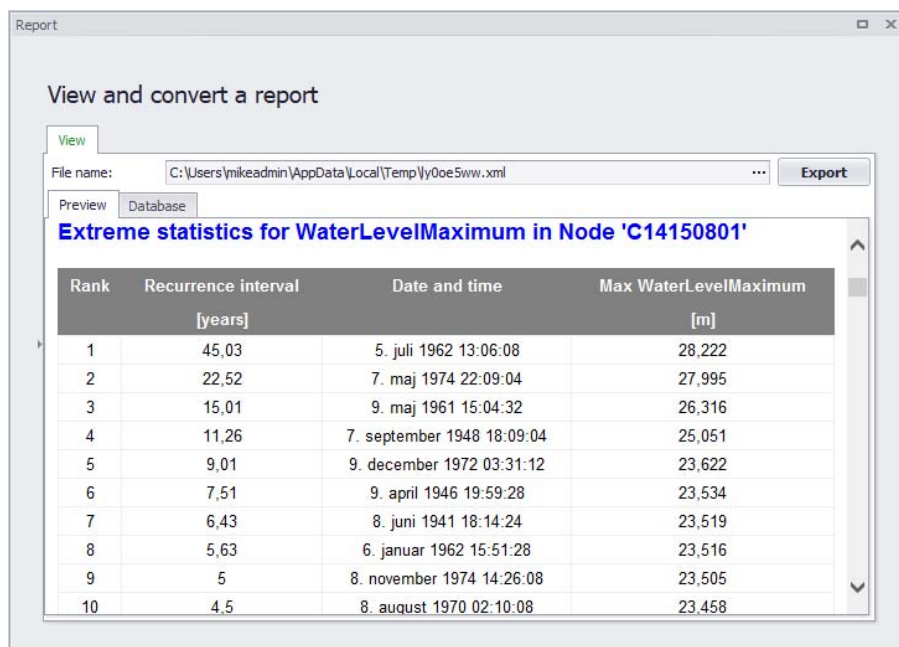

Figure 20.71 Example detailed LTS extreme event statistics report
- Click on the 'OK' button to create a new Detailed LTS Extreme Event Statistics report. An example is shown in Figure 20.71.